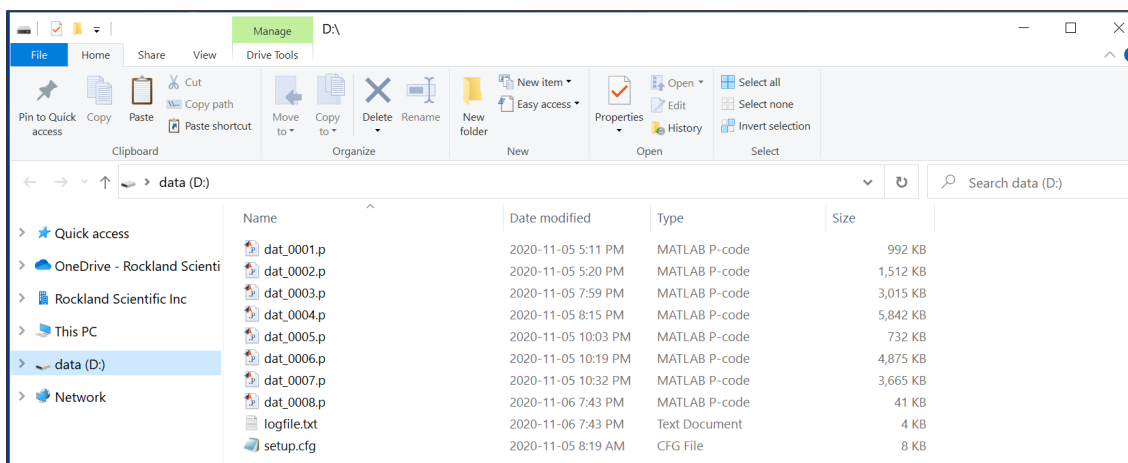

Figure 34: Connecting to the instrument as a mass storage device.
3. Double click on the RDL USB Drive to open it and view the contents of the RDL Memory Module on the instrument (Figure 34).